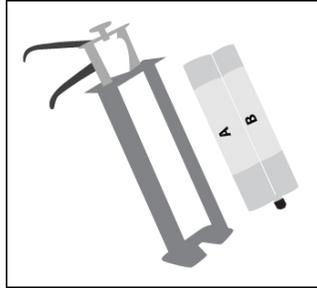
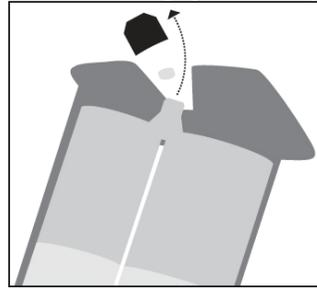
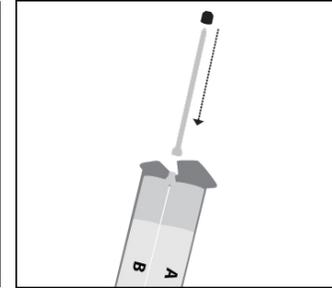

Figure 2: Install cartridges in sealer and bonder paste guns.
Figure 3: Remove nose plug. Gun must be in upright position.
Figure 4: Mount nozzle and secure with black retaining nut.
1. *Load sealer and bonder paste* (See Figure 2): Install sealer cartridges first. Start with the sealer gun pointing upwards. Unscrew the retaining nut and remove the nose plugs. (See Figure 3). Mount the mixing nozzle and secure it with the retaining nut.(See Figure 4). Rotate the gun so the nozzle of the cartridge is pointing downwards. Squeeze the handle gently until the sealer is approximately 2 in. from the tip of the mixing nozzle. Once the sealer has entered the mixing nozzle it must be used within 10 minutes. **Note: If you do not anticipate using the sealer or bonder paste within this period of time then simply replace the mixing nozzle with a new set of nose plugs.** Follow the same procedure for the bonder paste. The amount of sealer/bonder paste in a single A/B cartridge will be sufficient for applying 9 sq. ft. of material.